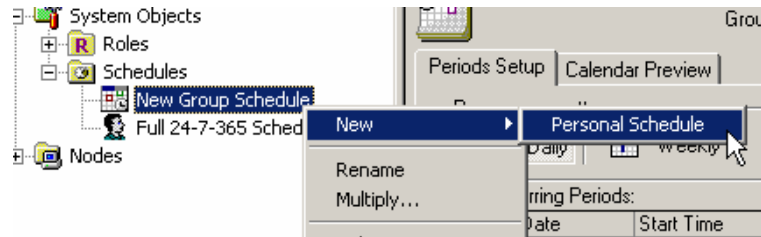

Figure 6.3. Creating a New Personal Schedule
6. On the tree control, right-click on the group schedule you have just created and select **New > Personal Schedule** from the pop-up menu, as shown in Figure 6.3.